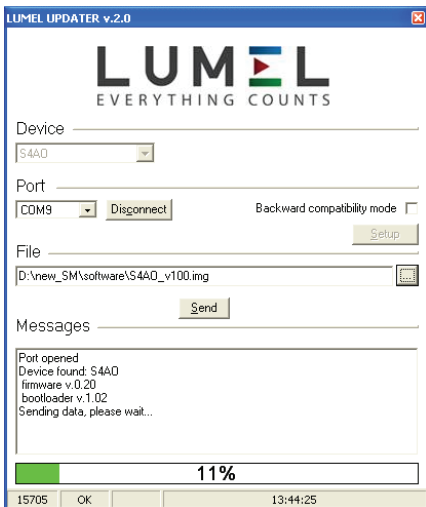

Figure 17: Program window for updating the software
Next select *Update firmware* from the menu at the top. The window of the LUMEL UPDATER (LU) program will open (Figure 17). S4AO module is supported with LU from version 1.17. Using this program, select the correct port on which the S4AO module was installed and press the *Connect* button. The informations about the progress of the update process are available in the *Messages* window. The message *Port opened* is displayed when the port is open properly. The LU program will display information about the software version and the version of the bootloader when the meter is properly detected. At this point, you should select the correct module upgrade file by pressing the [...] button. If the correct file is selected, the LU program will display a message *File opened*. Press *Send* button. The LU program shows a progress bar and the S4AO will blink with green diode during the software update. The module restarts, restores the manufacturer settings and goes to normal operation after the upgrade process is successfully completed. Information *Done* and duration of the update will appear in the LU program window. In the next step, you can restore previously saved settings of the module using eCon software.